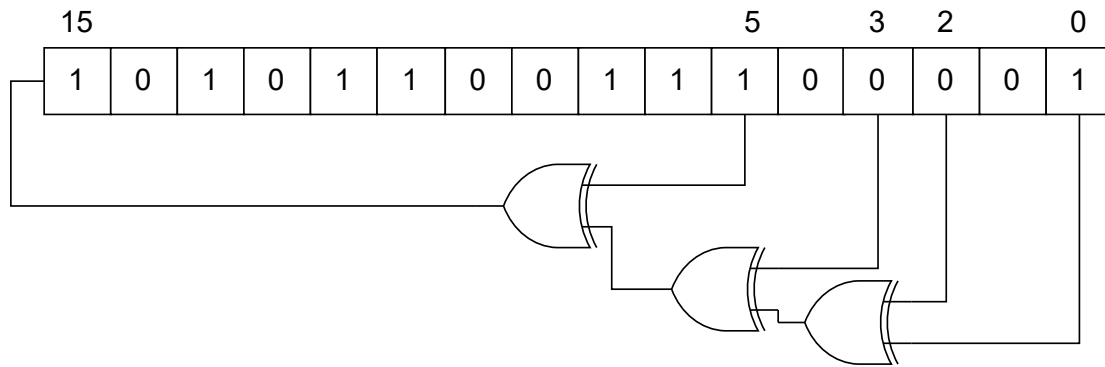

Figure 1: 16-bit LFSR Example
2. Create a 16-bit LFSR module as shown in Figure 1 using your shift register module, which is a 16-bit LFSR with bits 0, 2, 3, and 5 tapped. The most significant bit is labeled as bit 15, and the shift direction is to the right. Generate the RTL schematic and **add the screenshot of the RTL schematic to your report.**(10% Credits)